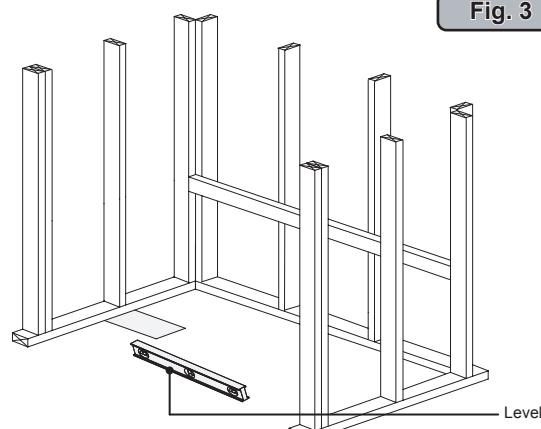

Fig. 3
- ① Make sure framed-in alcove is of proper size per Jacuzzi dimensions, square, and plumb; check floor for levelness (Figure 3). Rough-in should be kept to a minimum until the unit is on the job site. Measurements may vary +0 or - $\frac{3}{8}$ " from original specifications.
- ② Sufficient clearance must be provided for access to service connections (pump/motor, controls, heater plumbing and electrical hook ups).